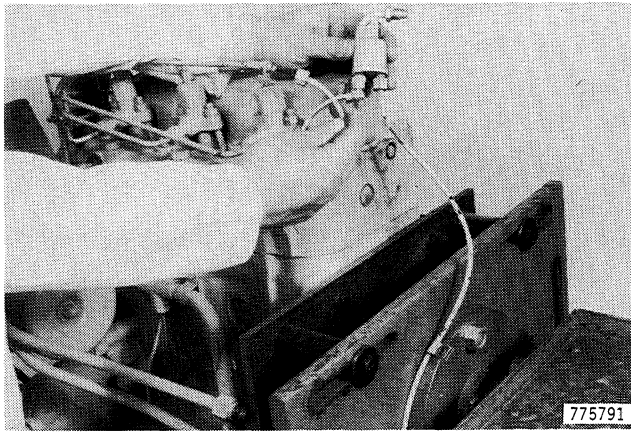

Figure 45
20. Remove the thermostart unit and tubing, Figure 45.